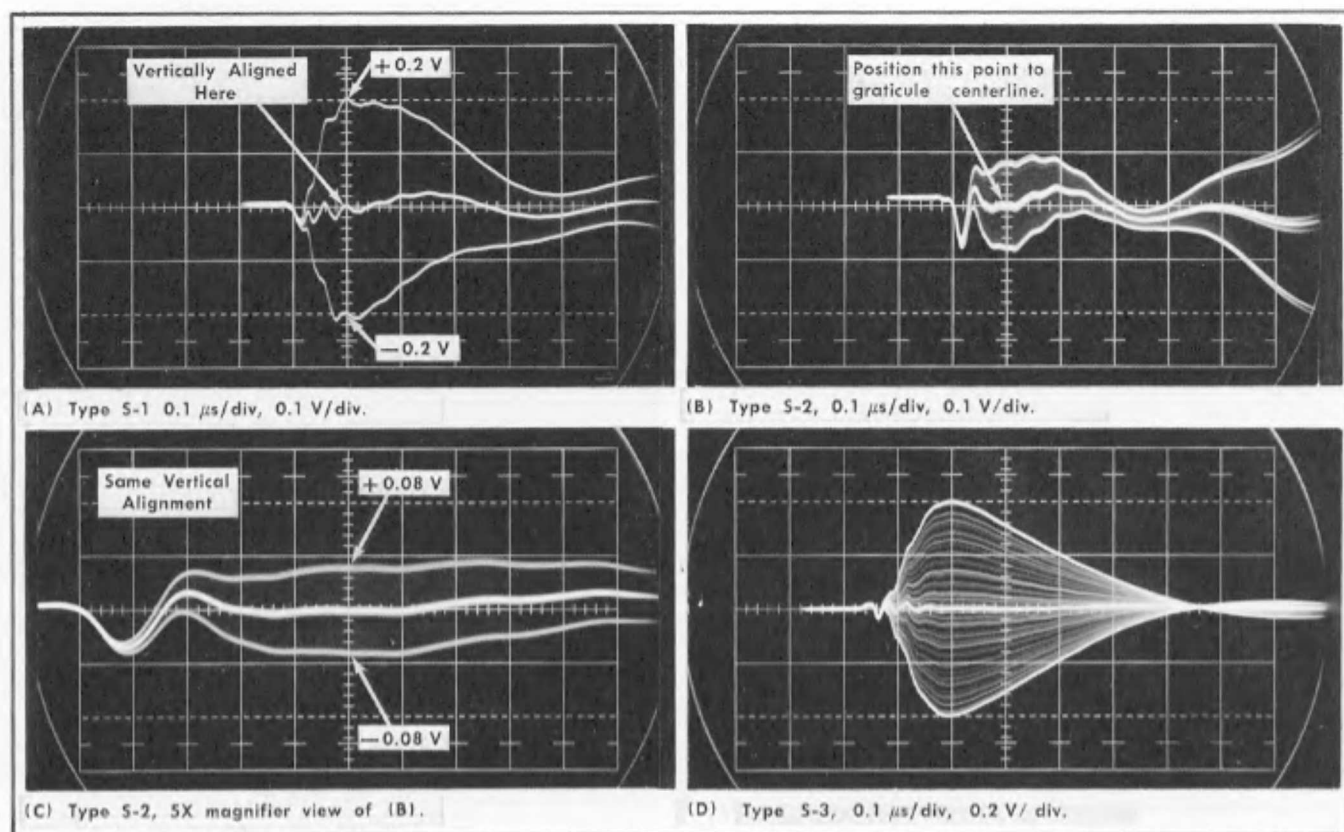

Fig. 7-8. Test oscilloscope displays of sampling head output signals at Q15 (Q215) base at R13 (R213), step 4, unity dot response.
a. Input signal amplitude to the sampling head must be the value stated earlier in Table 7-1. The test oscilloscope displays of the sampling head output signals (Fig. 7-8) are to be adjusted for ± 0.2 volt when using a Type S-1, for ± 0.08 volt when using a Type S-2, and for ± 0.4 volt when using a Type S-3 (see Fig. 7-7D).